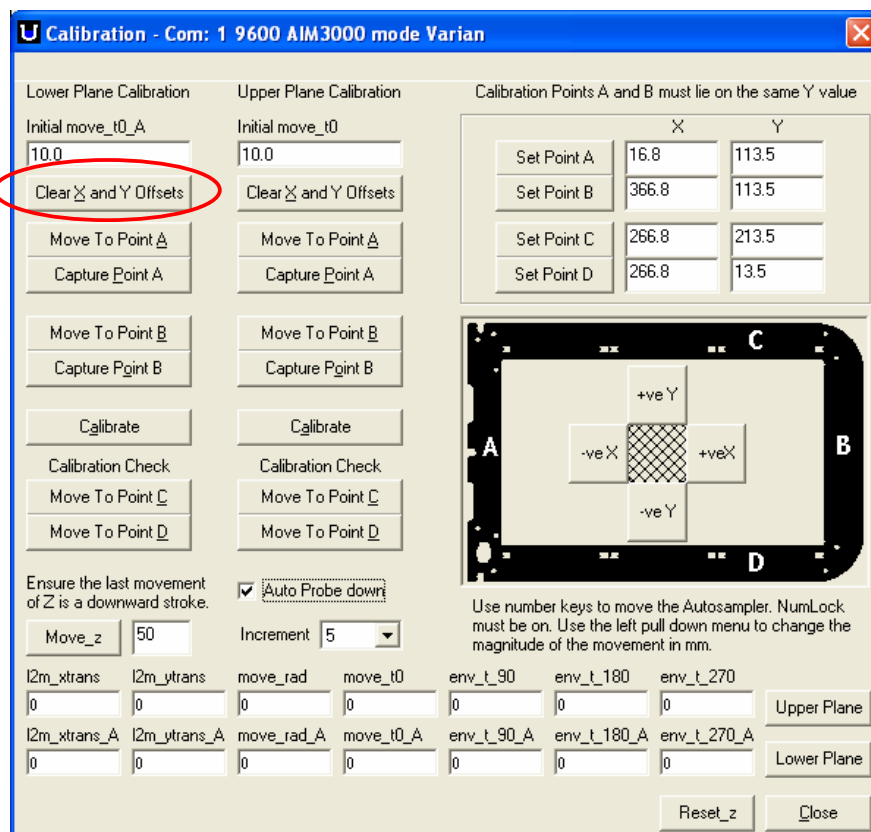

Figure 4: Clearing the X and Y Offsets
- Once the calibration window (Figure 4) opens up *Clear the X and Y Offsets* on the Lower Plane Calibration.